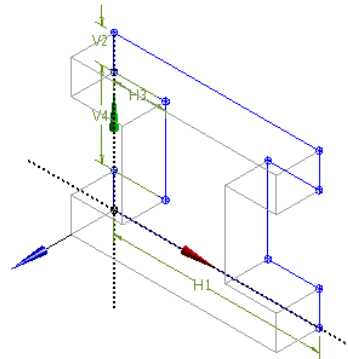
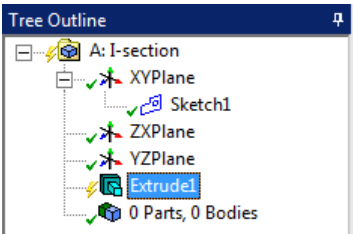

Figure 3-33 The preview of feature after choosing the **Extrude** tool
Figure 3-34 The Tree Outline with Extrude 1 added to it
2. Choose the **Extrude** tool from the **Features** toolbar; the preview of the extruded feature with default values is displayed in the **Graphics** window, as shown in Figure 3-33. Also, **Extrude1** is added under the three default planes in the Tree Outline, as shown in Figure 3-34.